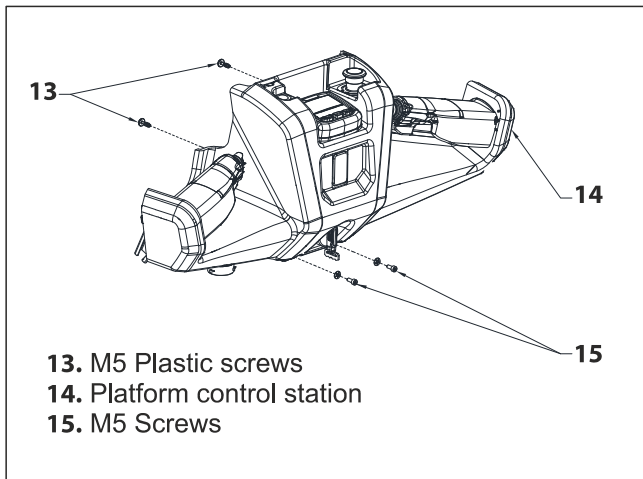

Figure 6-11. Platform Station Removal
3. Turn the machine off, unplug the battery and unplug the 20pts connector of platform control station (14) see Fig. 6-11.
4. Remove platform station loosening upper M5 screws (13) see Fig. 6-11 and M4 lower screws (15) see Fig. 6-11.